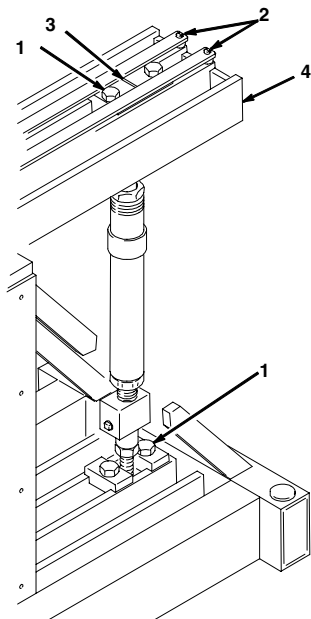

Figure 12. Secondary Pump
The numbers of the pump settings, calculated from the procedures in the section, Calculate the Ratio Setting, correspond to the scale numbers on the lever arm (49) of the VRHC. See Figure 12.